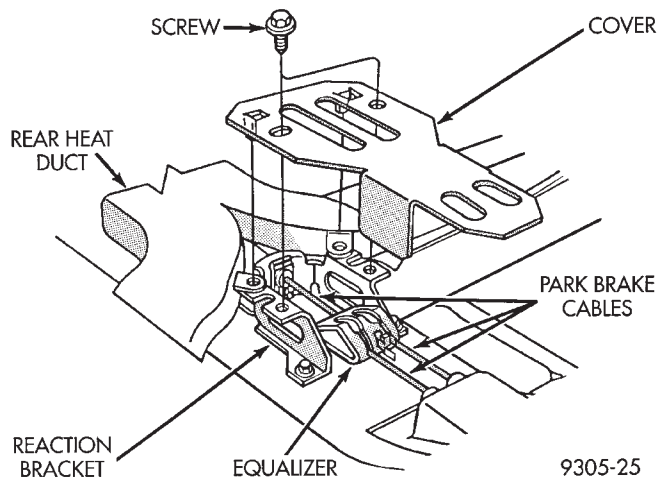

Fig. 28 Park Brake Equalizer And Cover
(1) Install equalizer cover back on reaction bracket (Fig. 28). Torque equalizer cover to reaction bracket mounting bolts to 10 N•m (88 in. lbs.). Fold carpeting back into position on left floor pan of vehicle. Install throttle pedal and bracket back on dash panel studs and install attaching nuts.